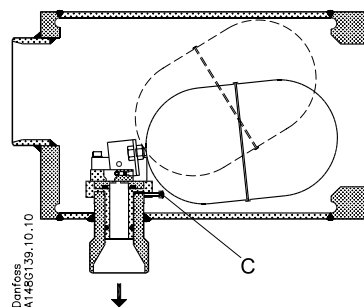

Fig. 5
- 3) Remove float valve assembly by untightening the screw pos. C (fig. 5) and lifting up the complete float valve assembly.
- 4) Place new float assembly in the outlet branch and tighten the screw pos. C (fig. 5)
NB! Ventilating pipe pos. E (fig. 5) has to be placed vertically upwards.
- 6) Use a torque wrench to tighten the screws pos. F (fig. 5). Tighten with torque of 183 Nm (135 LB-feet).